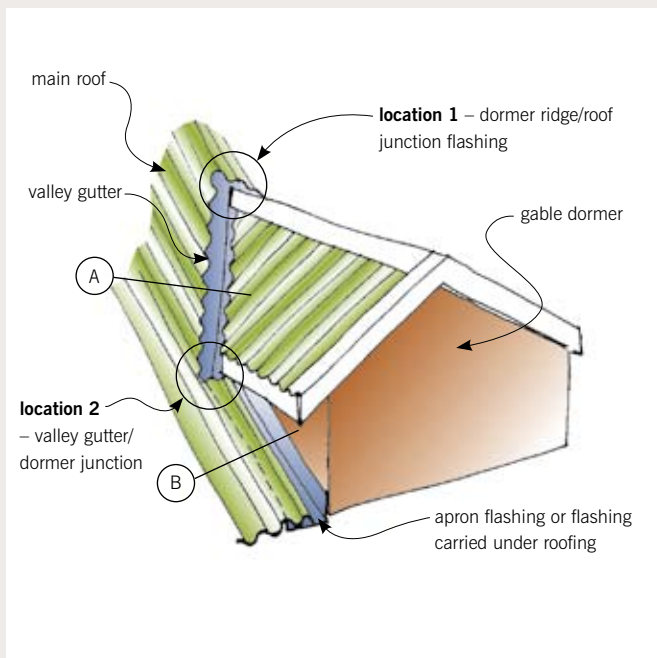

Figure 1: Gable dormer.
For a hipped roof, a gable dormer (see Figure 1), rather than a shed dormer, is often the preferred option but flashing issues are more complex. The dormer is effectively a wide cricket, directing the flow of water to
- dormer ridge/main roof junction (location 1 in Figure 1)
- valley gutter/dormer roof junction (location 2 in Figure 1).
A valley gutter (see Figures 1 and 3) collects water from the main roof and the dormer roof. Typically, apron flashings flash the sidewalls of the dormer. A problem occurs at the junction between the two as the base of the valley gutter is located *below*, i.e. at a lower level to, the roofing, but the water must be redirected up and *over* the roofing and apron flashing (see Figure 4).